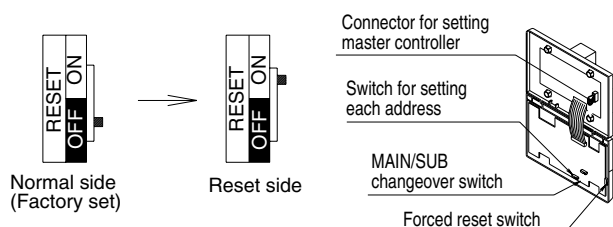

Fig. 1
Setting (1) through (3) are initialized when power is turned ON, therefore complete settings BEFORE activating the power. (The positions of connectors and switches used for settings in this section are shown in Fig. 1.)
- (1) Connector for setting master controller (X1A) (Provided with connector at factory set)